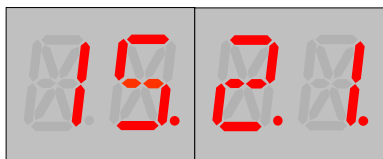

Figure 7d: Current Bit value.
4. Press SELECT. The Bit value is displayed. See **Figure 7d**.